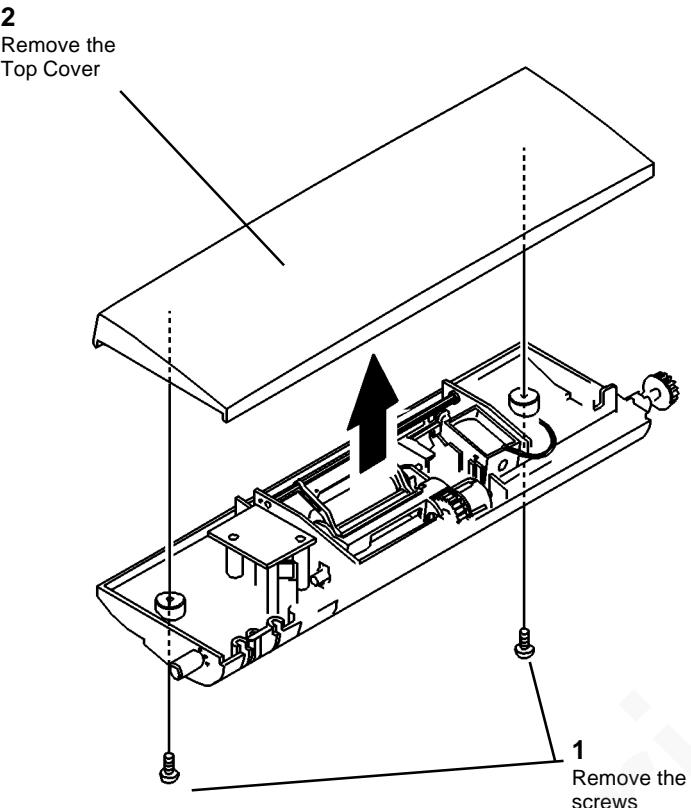

Figure 3 Removing the Top Cover
3. (Figure 3): Remove the Top Cover.